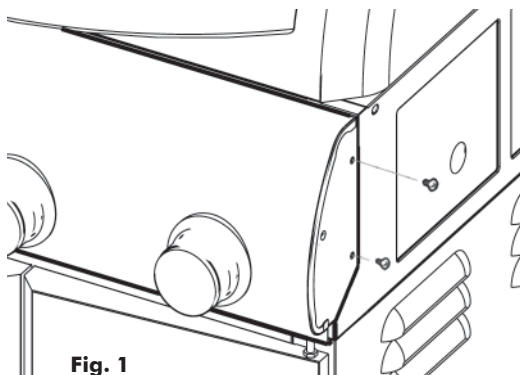
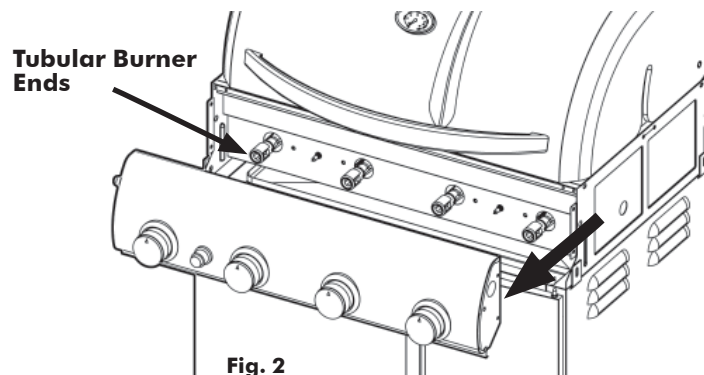

Fig. 1
Fig. 2
4. Figures 1, 2, 4 and 4a show the grill at assembly step 7, prior to attaching the Side Tables and illustrate the initial steps in the "FIRST TIME USE LEAK TEST".
Detach the Control Panel from the Grill Body/Firebox by removing the two 5/32" Bolts from each end. (Fig. 1) Gently pull the Control Panel away from the Body until Valves disengage from the Tubular burner ends. (Fig. 2) Support the Control Panel to keep tension off of the igniter wire leads or detach the wire leads from the Starter Button module.
10. Re-attach the wire leads to the Igniter button. Replace Control Panel around flanges at Bowl ends and align bolt holes on each side. Replace and retighten all bolts. (Fig. 1)